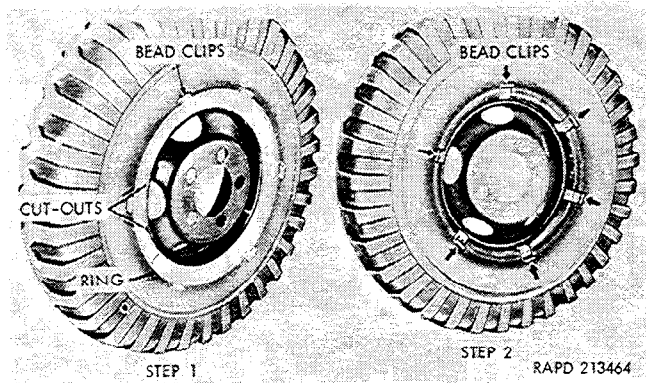

Figure 2-164. Removing tire.
(1) Remove the wheel and tire (para 2-142 a).
(2) Remove the valve cap, unscrew and remove the valve core from the valve stem, and deflate the tube.
(3) Lay the wheel on the floor with the outer side up. Insert a pry bar between the tire and one of the bead clips, and press downward until tension on the clip is relieved. Tap the clip with a hammer to disengage it from the ring.
(4) Repeat the operation in (3) above for each of the other five clips. Drive a bar between clips and rim to break the tire bead from the rim.
(5) Insert a pry bar between the ends of the ring and pry the end nearest the first cutout in the ring (fig. 2-164) enough to permit a second pry bar to be inserted in the cutout. Work the ring from the wheel flange, prying at the cutouts in the ring, and remove the ring. Remove the six bead clips from the outer side of the tire.
(6) Mark the location of the valve stem on the tire if the original mark has been obliterated and remove the tire, tube, and six inner bead clips. Remove the tube from the tire.